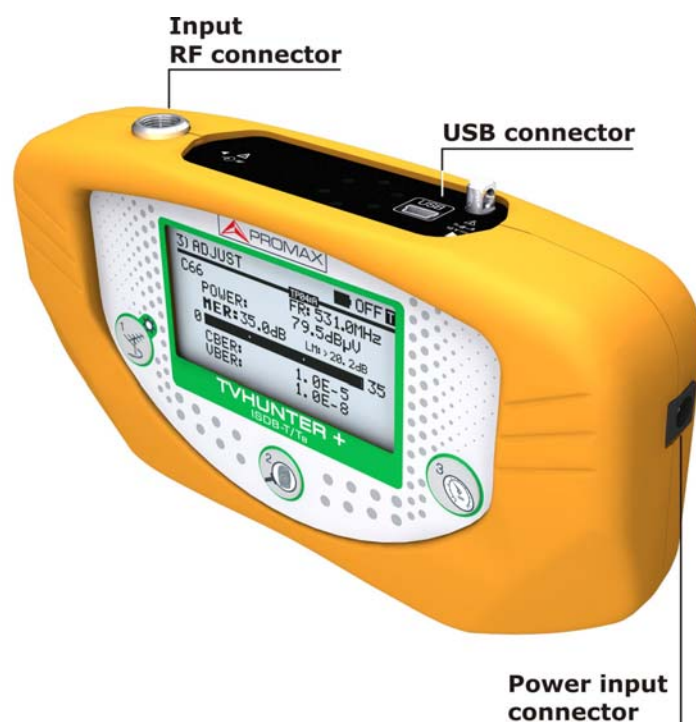

Figure 6. Side panels.
- 1 Turn the **TVHUNTER+** off and connect the mains adapter to the external power connector  [4] (see Figure 6.-) at the right side panel.
- 1 To fully charge the battery, connect the mains adapter to the external power supply input  [4] (see Figure 6.-) with the **TVHUNTER+** switched off.